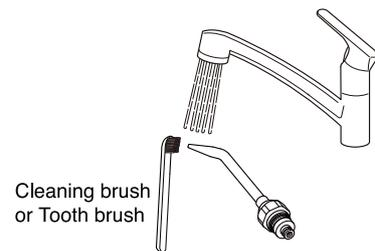

Fig.5-14 Cleaning Belmont 77 Syringe Nozzle
- A. Wipe off the surface contamination by a cloth while rinsing the surface by running clean warm water at 40 ± 5 degrees. Scrub the tip and joint part of nozzle by a cleaning brush or by a tooth brush with running clean warm water at 40 ± 5 degrees. (Fig.5-14)